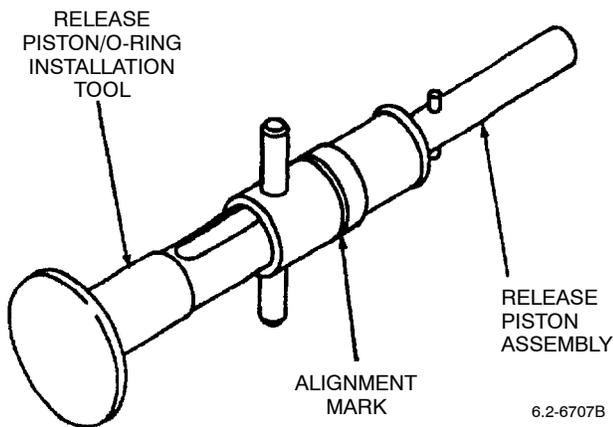

Figure 24. Insert Release Piston
(2) Insert release piston into release piston O-ring installation tool (Figure 24).